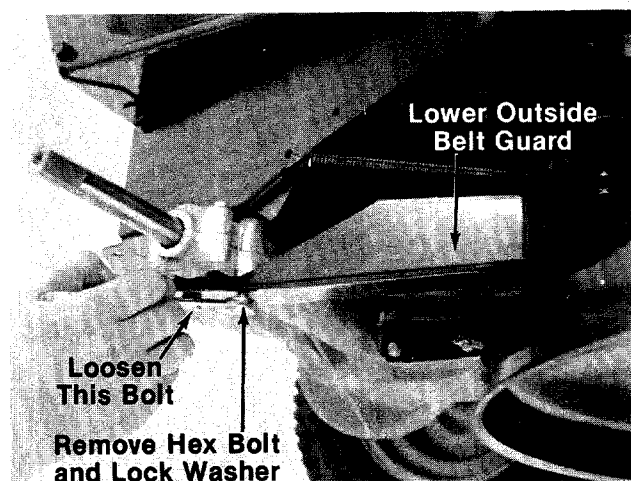

FIGURE 22.
4. Remove one hex bolt and lock washer at the front of upper engine belt guard. A 7/16" wrench is required. See figure 22.
5. Loosen (Do Not remove) the second bolt. See figure 22.